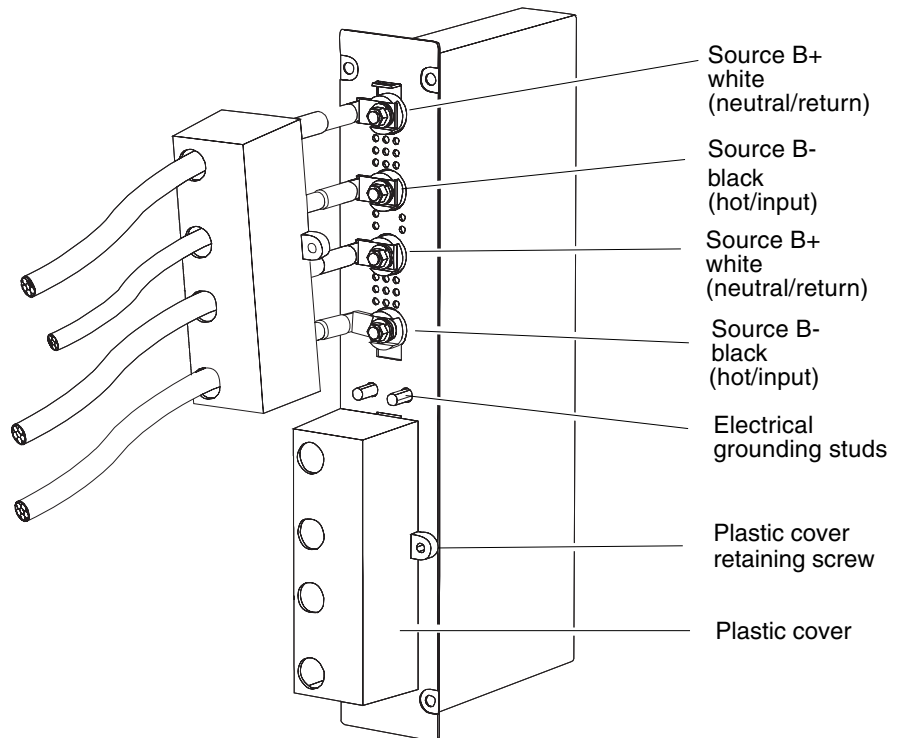

FIGURE 1 DC Inlet Box With Source B Plastic Cover Removed and Connectors Exposed
2. Remove the plastic covers from the DC inlet box (FIGURE 1).
See (FIGURE 1).